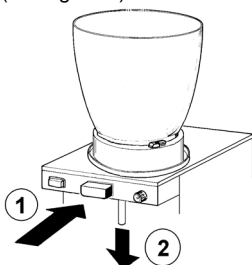

figure 1
- 3 Push (1) the dispensing button and remove (2) the pinch tube from its seat by taking it out downward (see figure 1).